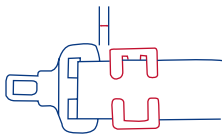

Fig. 42-3
- Secure the shoulder belt to the lap belt by installing the locking clip 1/2 inch from the buckle as shown in Fig. 42-3.